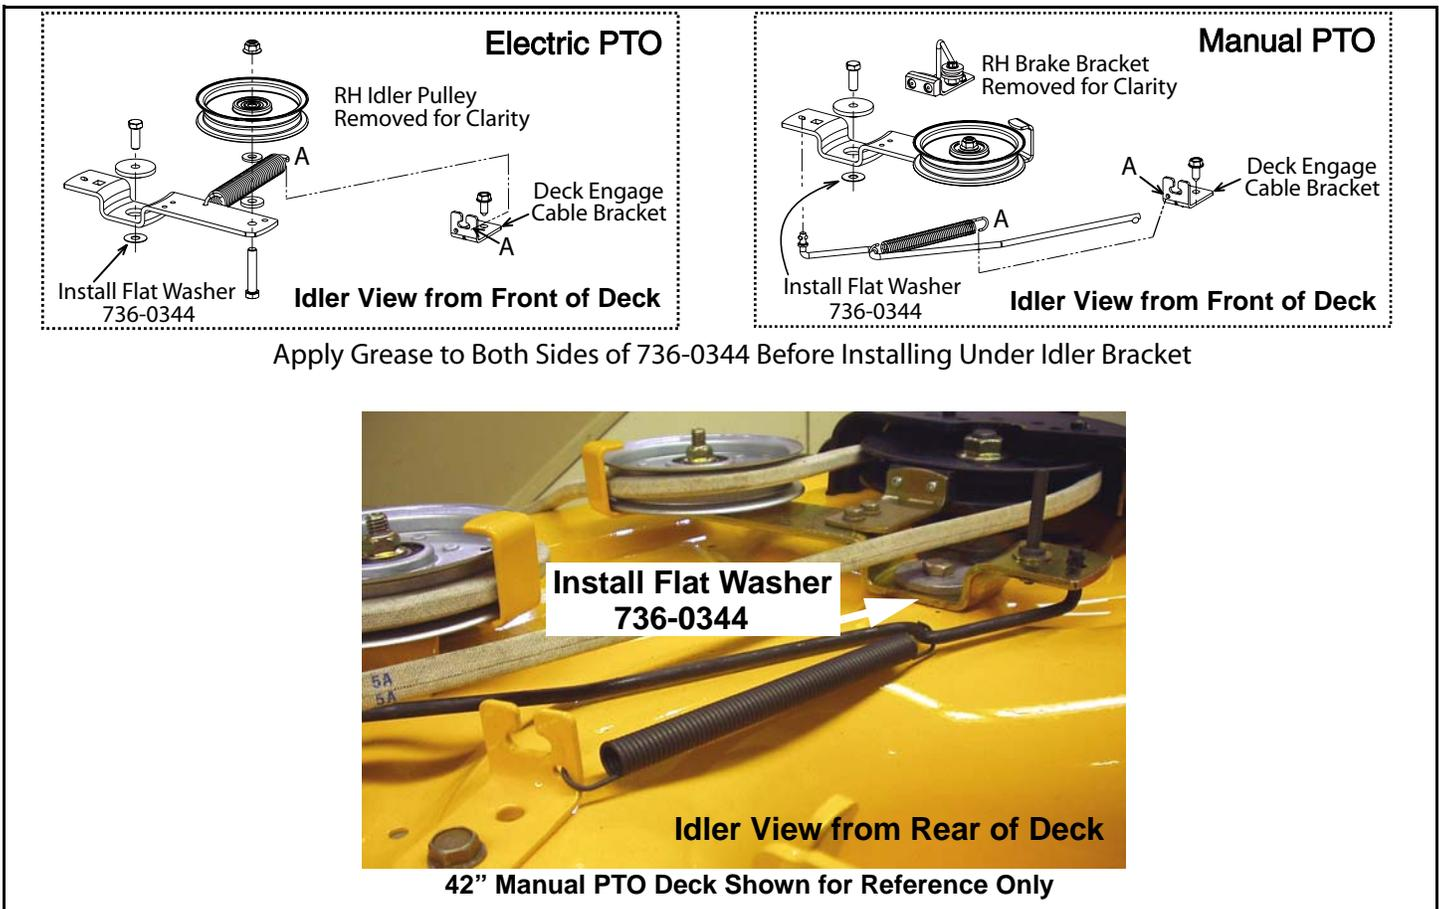

FIGURE 1
5. Install a spacer washer in accordance with Figure 1.